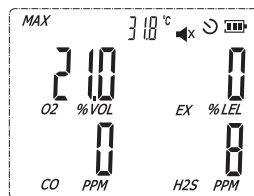
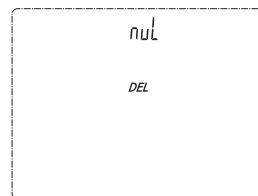

Figure 2
Figure 3
- 2) Left button : Under normal mode short press the MAX/MIN button to shift between the maximum and minimum values as shown in Figure 2 and long press to delete as shown in Figure 3.